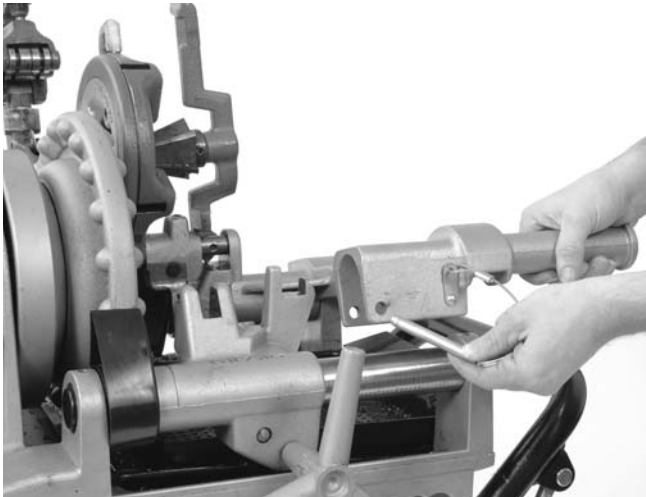

Figure 5 – Installing Adapter Bracket
- Place the adapter bracket over the end of rails of the 300 Compact (as shown in Figure 5) and lock into place with the attached pin.